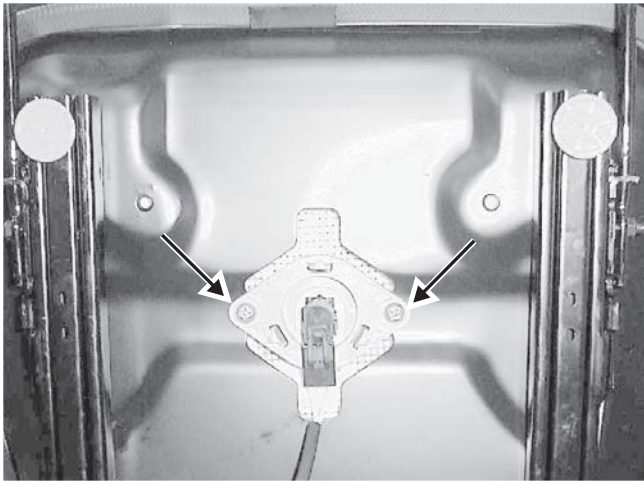

Fig. 9-21 Location of capscrews on standard seat.
2. Seat switch removal: **Figs. 9-21, 9-22**